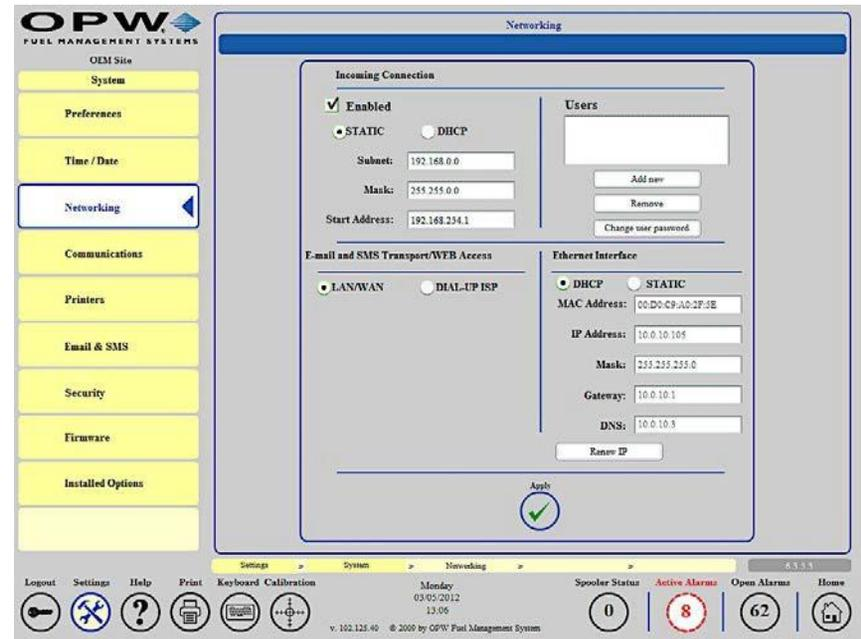

Figure 2-3 Direct Connection Screen
3. Navigate to the **Networking** section of the **System Settings** menu on the console and check the DHCP configuration. Then select "Renew IP" to renew the console's IP Address (Figure 2-3).